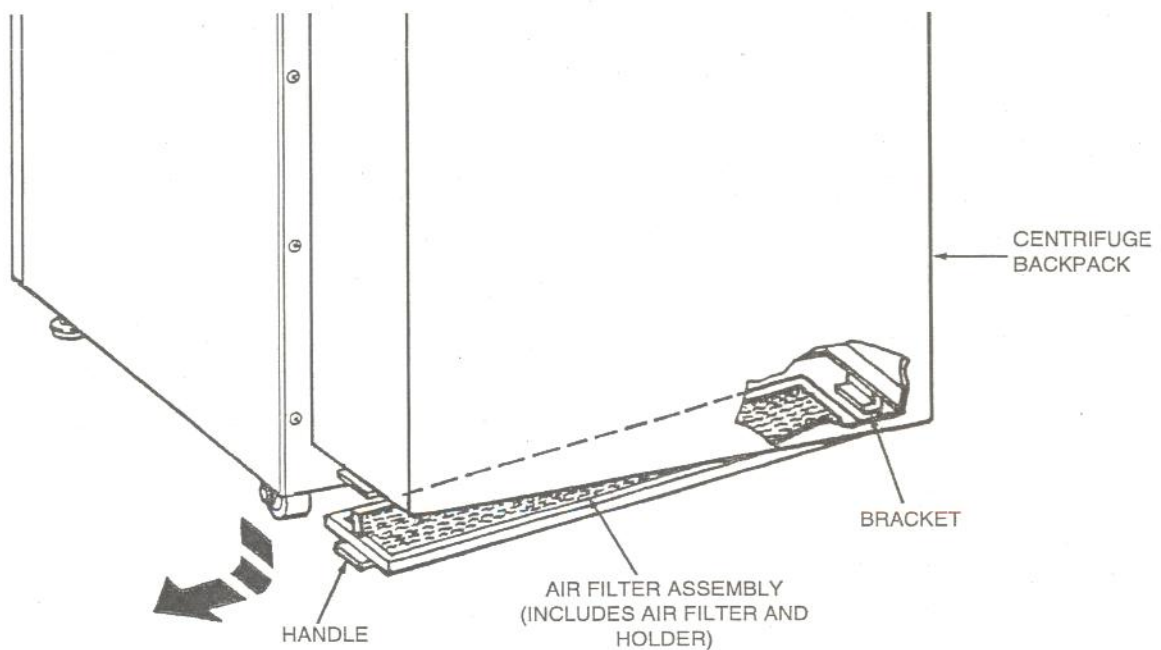

Figure 4-1. Air Filter Assembly Removal
3. From the left side of the centrifuge, grasp the handle on the air filter assembly and pull downward (see figure 4-1). Remove the air filter assembly.